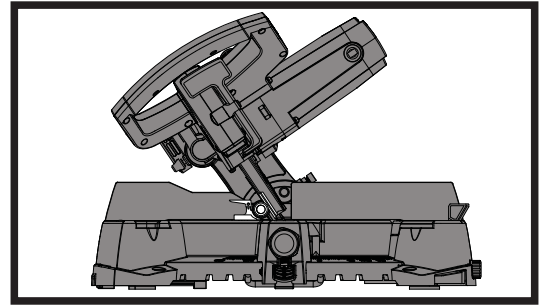

Fig 23
- 1) Set the cutting head to 33.9° by deploying the crown moulding pin. Check the angle of the blade against the machine table using the vernier angle gauge. (See fig. 23)